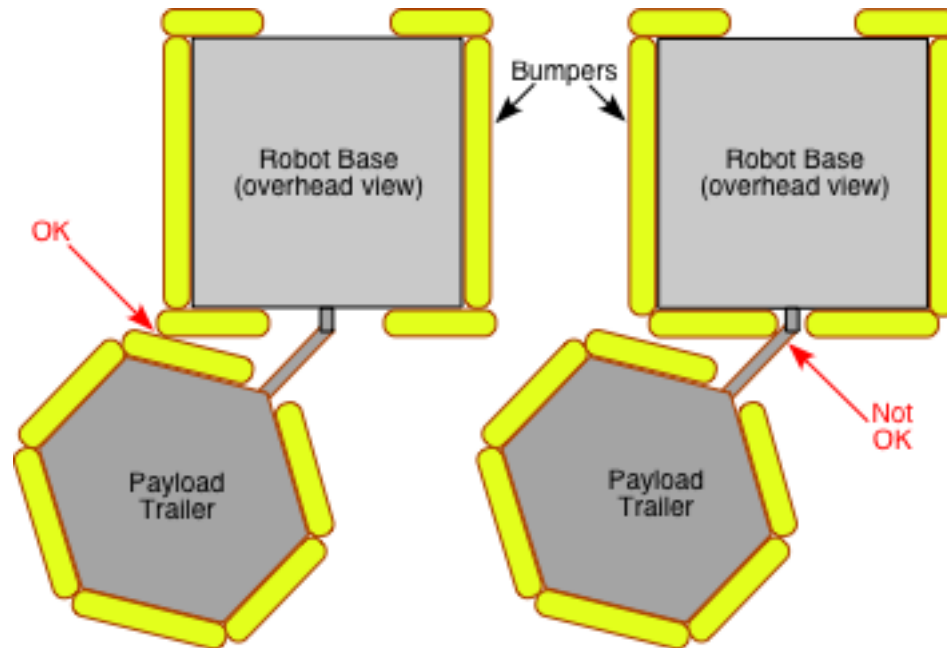

Figure 8-6
- E. The Trailer Hitch must be placed such that, as the TRAILER swings from side to side, the first contact between the TRAILER and ROBOT is BUMPER-to-BUMPER and not TRAILER-tongue-to-BUMPER (to prevent placing excessive stress upon, and possibly damaging, the TRAILER tongue). See Figure 8-6.
- <R41>** The 12V battery, the main 120-amp circuit breaker, and the Power Distribution Board shall be connected as shown in Figure 8-6. In particular: